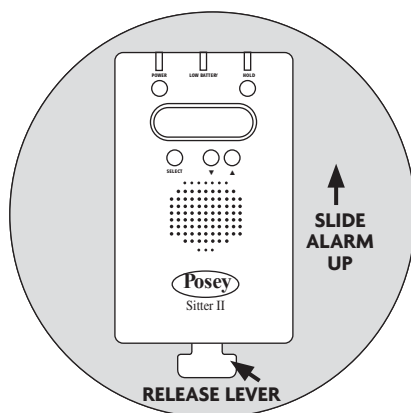

Fig. 14 - Alarm/Bracket (Front View)
5. To remove alarm, gently push release lever IN while sliding alarm up and out (fig. 14).